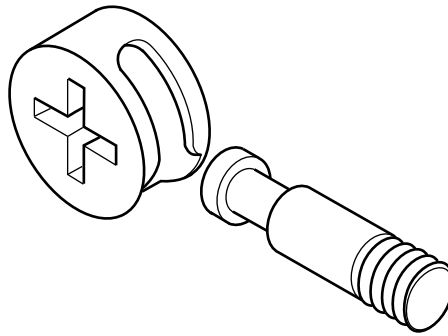

Fig. 6
- (c) Knock-down fittings have been used to join the stand together. Fig. 6 shows a type of knock-down fitting.